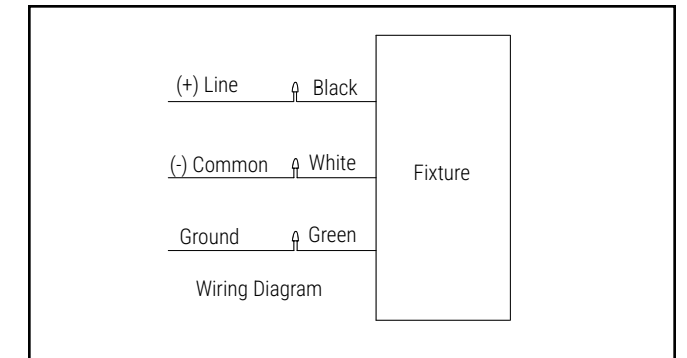

Figure 3.
2. Loosen but do not remove (2) center bolts and remove set screw.
5. Refer to wiring diagrams for power connection. (Figure 3.)
9. Refer to the wiring diagram for power connection. (Figure 3.)